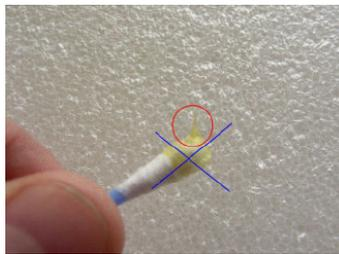

Figure 2
- a. Apply a small amount of O-lube to a Q-tip. (Figures 2-4). Avoid applying too much O-lube on the Q-tip (as in Figure 2) by distributing excess lube on the back of your hand (Figure 3). Figure 4 depicts the proper amount of lube.